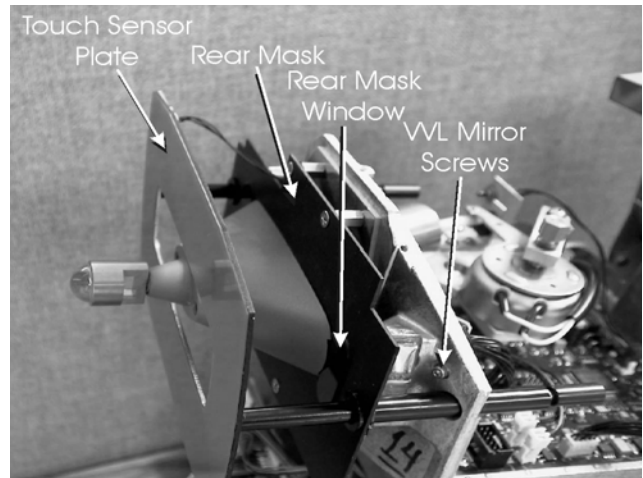

Figure CL-1. Rear Mask Windows
1. Refer to Figure CL-1 and locate the Rear Mask Windows and wipe the outside surfaces with a clean, long handle cotton-tip swab moistened with a mild detergent solution (1 cc of liquid dish soap to one liter of clean, filtered water (filtered below 5 microns)) to remove dirt and contaminants.